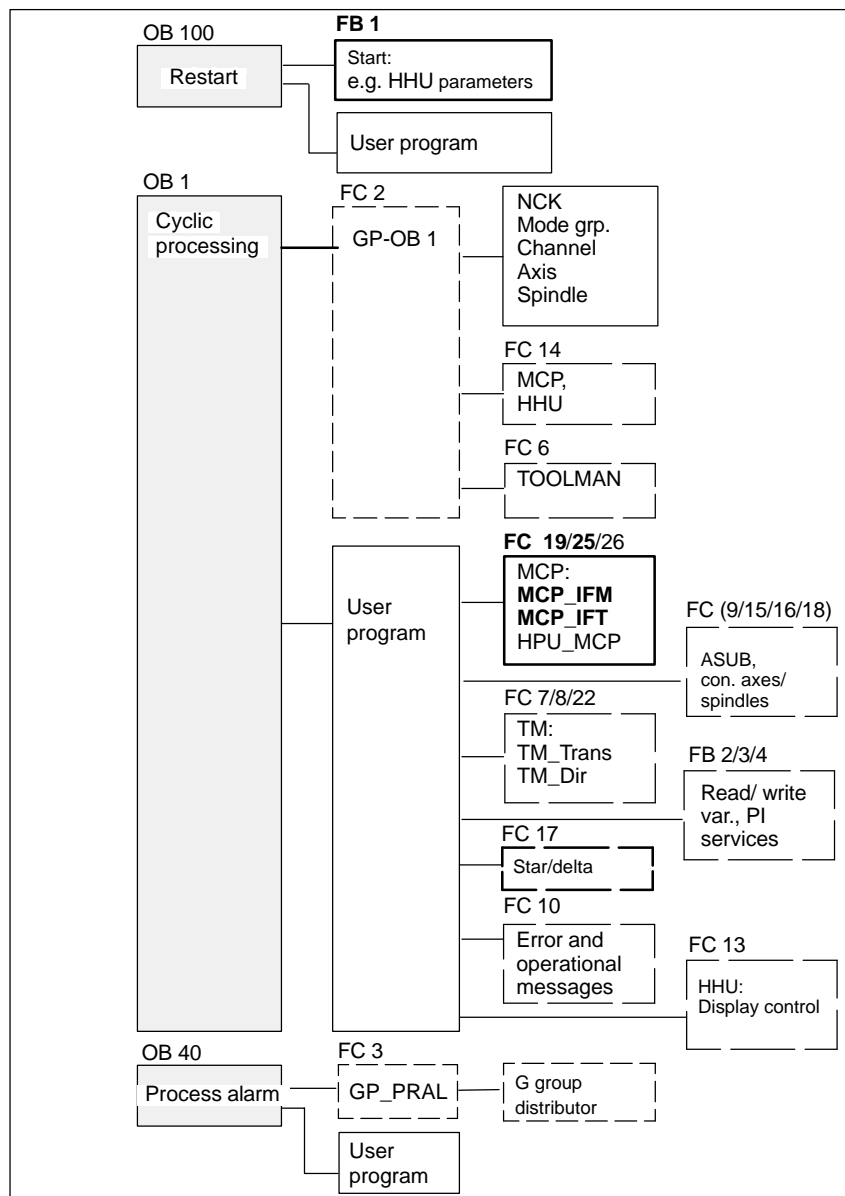

Fig. 5-16 Structure of PLC program
The user (machine manufacturer) must call the relevant part of the basic program in the OBs 1, 40 and 100, as shown in Fig. 5-16.
3. Insert block FC 26 into the cyclic part of the PLC program (see Fig. 5-16).